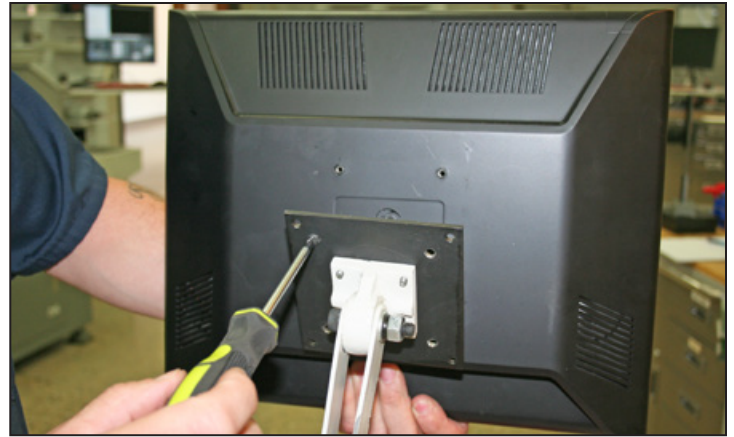

Figure 2
3. Line up VESA Mount Plate with Touch Screen Monitor and attach as follows (see **Figure 2**):